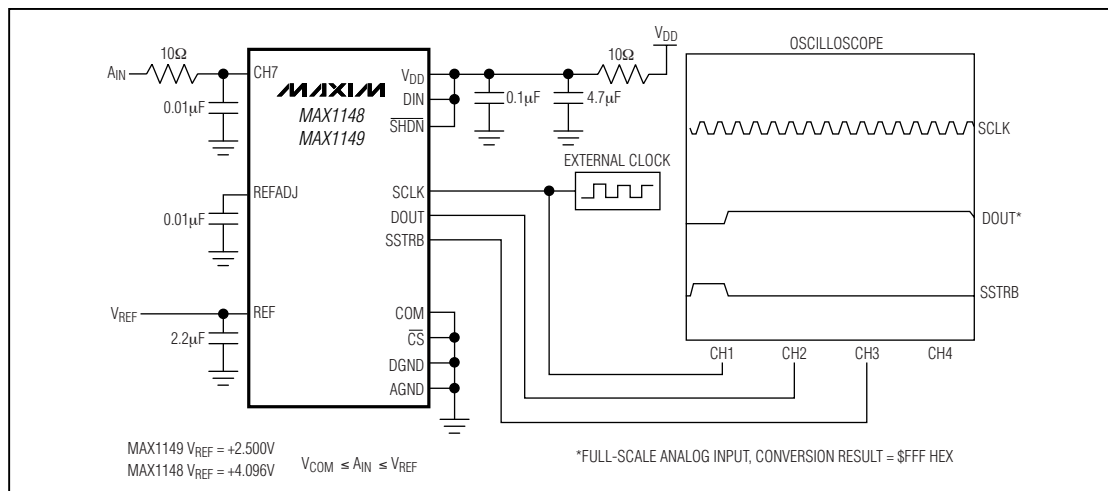
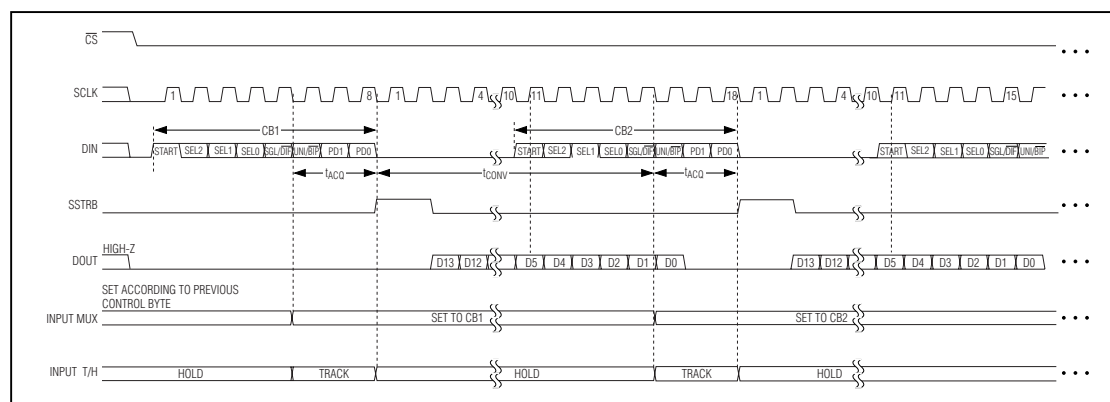

Figure 7. Quick-Look Circuit
Figure 10. External Clock Mode—18 Clocks/Conversion Timing
Use the circuit of Figure 7 to quickly evaluate the MAX1148/MAX1149. The MAX1148/MAX1149 require a control byte to be written to DIN using SCLK before each conversion. Connecting DIN to V_{DD} and clocking SCLK feeds in a control byte of \$FF HEX (see Table 1). Trigger single-ended unipolar conversions on CH7 in external clock mode without powering down between conversions. In external clock mode, the SSTRB output pulses high for two clock periods before the MSB of the 14-bit conversion result is shifted out of DOUT. Varying the analog input to CH7 alters the sequence of bits from DOUT. A total of 18 clock cycles are required per conversion (Figure 10). All transitions of the SSTRB and DOUT outputs occur on the falling edge of SCLK.
2) The first high bit clocked into DIN after bit 5 of a conversion in progress is clocked onto DOUT (Figures 10 and 11).
The fastest the MAX1146-MAX1149 can run with $\overline{CS}$ held low between conversions is 18 clocks per conversion. Figures 10 and 11 show the serial-interface timing necessary to perform a conversion every 18 SCLK cycles.